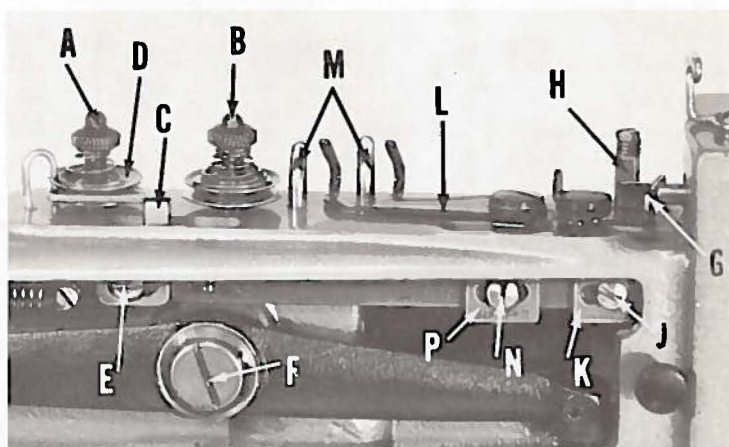
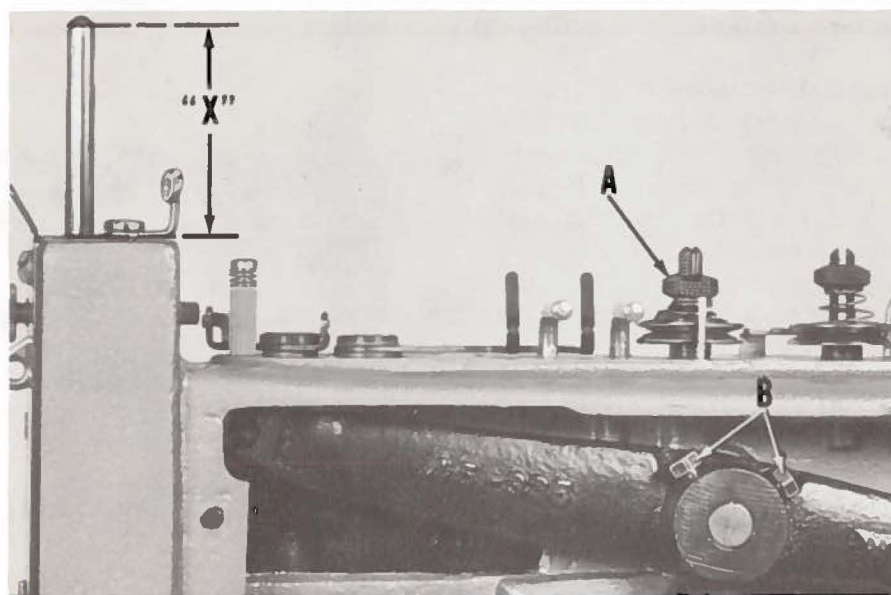

Fig. 10
Fig. 12
The regular thread tension (A, Fig. 10) is located behind the automatic thread tension (B) and controls the tightness of the tack. The tension required will vary in relation to the types of thread and thickness of materials and label used. Normally, only a light tension is required.
Check the position of the tension releasing lever (C, Fig. 10) to see that it comes as close as possible to the tension discs (D) without contacting them. Adjustment is made by loosening screw (E) and moving the lever (C) in the required direction.
With the tension nut (A, Fig. 12) turned down about four or five turns, the automatic thread tension should release the thread when the needle bar, on its upstroke, has risen to a point where the lower edge of its bevelled top is $1 \frac{9}{16} + \frac{1}{32}$ inch above the top edge of the upper needle bar bushing as shown at dimension "X" (Fig. 12) on machines using short needles. When using long needles, the needle bar must be allowed to rise until dimension "X" is $1 \frac{15}{16} + \frac{1}{32}$ inch. For extra long needles, this dimension should be $2 \frac{1}{8} + \frac{1}{32}$ inch.
To make this adjustment, turn pulley in operating direction until the needle bar has risen to the heights described above. Loosen the two hexagonal head screws (B, Fig. 12) in needle lever hub and turn needle lever shaft (F, Fig. 10) with a screwdriver until the tension releases.
Hold the needle lever shaft in this position while retightening the two hexagonal head screws (B, Fig. 12). This is an extremely important adjustment and should be rechecked.
If, after rechecking, it is found that excessively large loops still exist on the underside of the fabric, the situation can be helped by applying more tension at tension nut (A, Fig. 12).
The thread nipper (G, Fig. 10) pinches and holds the thread so that the raising of the tacking clamp at the conclusion of the sewing cycle will break off the thread.
The thread pull-off lever (L, Fig. 10) controls the amount of thread which is pulled through the tensions, at the end of a stitching cycle, to provide sufficient thread for the first stitch of the following cycle.